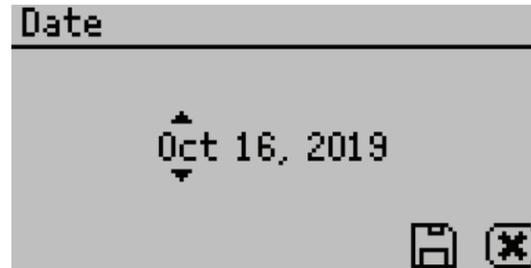

Figure 33 Date option
- **Date.** Select to set the date in the instrument. Use **RIGHT** and **LEFT** to change between the month, day, and year categories and **UP** and **DOWN** to change the individual values (Figure 33). The date is recorded with each water activity reading.